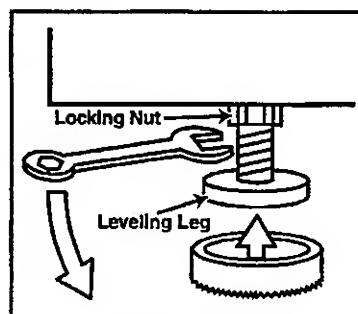

Figure 1-3
2. Tip washer slightly forward. Loosen rear leveling leg lock nuts. Tip washer back slightly to loosen front leveling leg lock nuts (Figure 1-3).
5. Install the rubber feet, found in the installation package, on all four (4) legs (**Figure 1-3**).